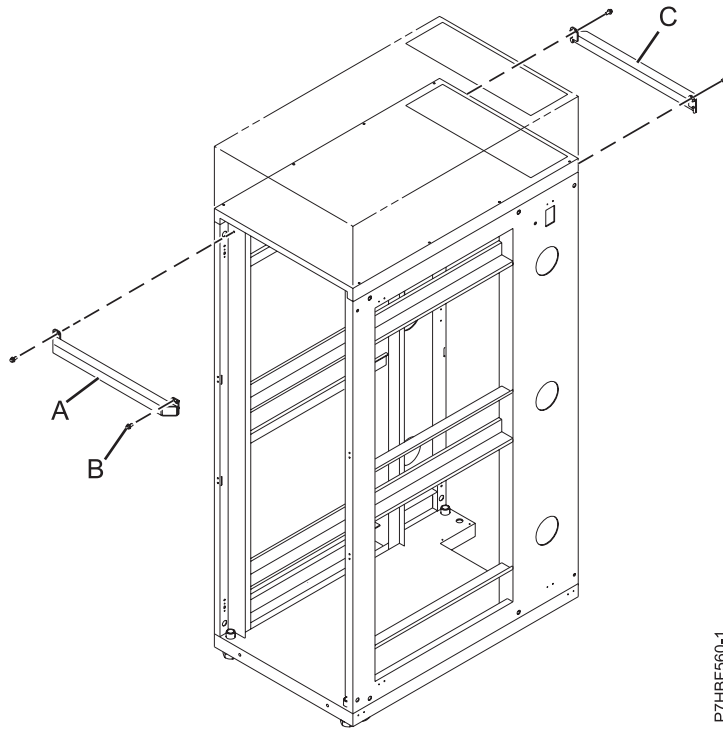

Figure 118. Securing the rack brace
6. Use the four screws **(B)** that were removed from the top cover to secure each rack brace to the rack, as shown in Figure 118 on page 116.